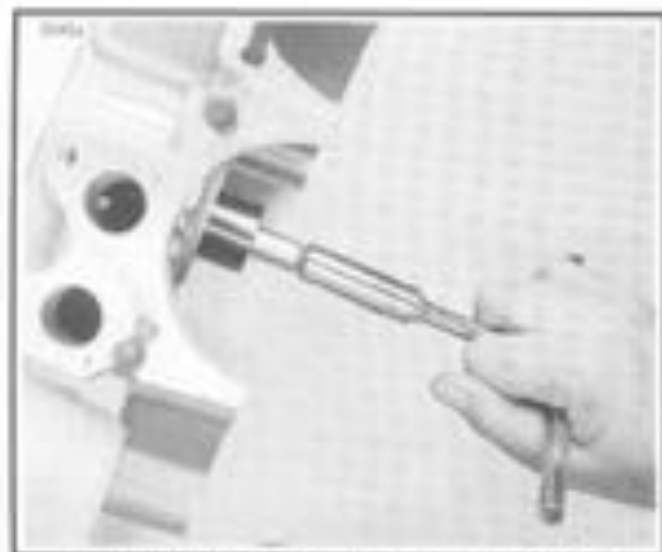

Figure 3-68. Line Reaming Pinion Shaft Bushing
- See Figure 3-68. Install PINION SHAFT BUSHING REAMER PILOT (Part No. HD-94812-07) into right crankcase roller race. Insert PINION SHAFT BUSHING REAMER (Part No. HD-94812-1) through the pilot.